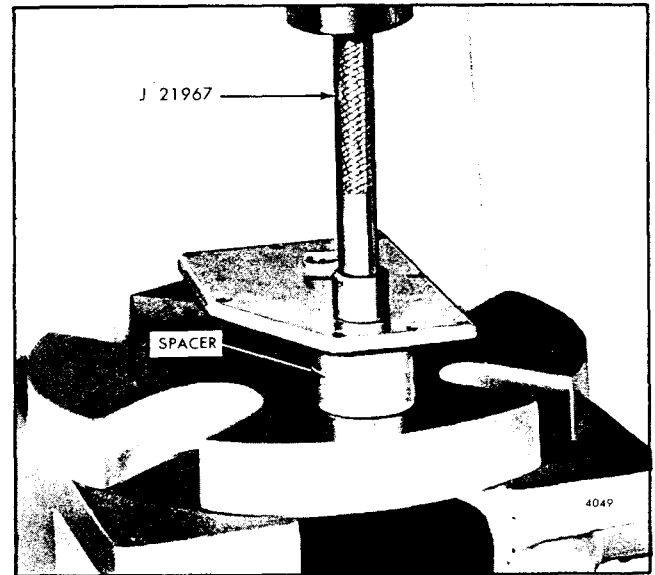

Fig. 5 - Removing Governor Cover Bearing
10. If the bearings are to be removed, place the governor cover on an arbor press and press them out with bearing remover J 21967 (Fig. 5).